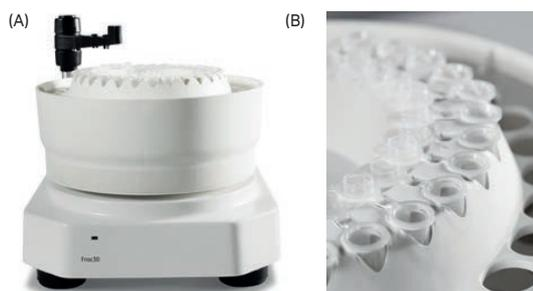

**Fig 4.** UNICORN start process picture illustrating priming of the entire flow path.
- f. Prime the entire flow path (buffer tubing to outlet fractionation tubing) with Buffer A to ensure the flowpath is filled with buffer before starting the chromatography run. From the process picture, set the Buffer valve to position A, Wash valve to position Column and Outlet valve to position fraction collector (Fig. 4, on page 2). Prime the entire flow path for 5 minutes.